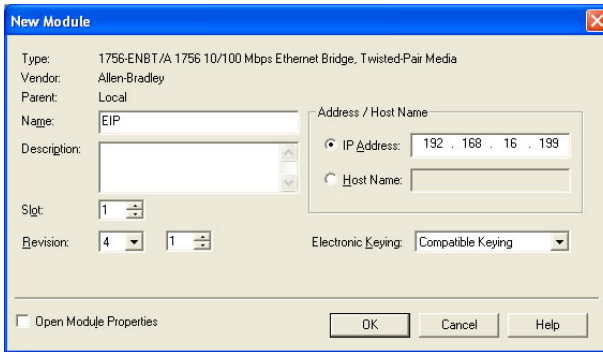

Figure 84: Configuring the New Module
- 6) The “New Module” window will open. Refer to Figure 84.